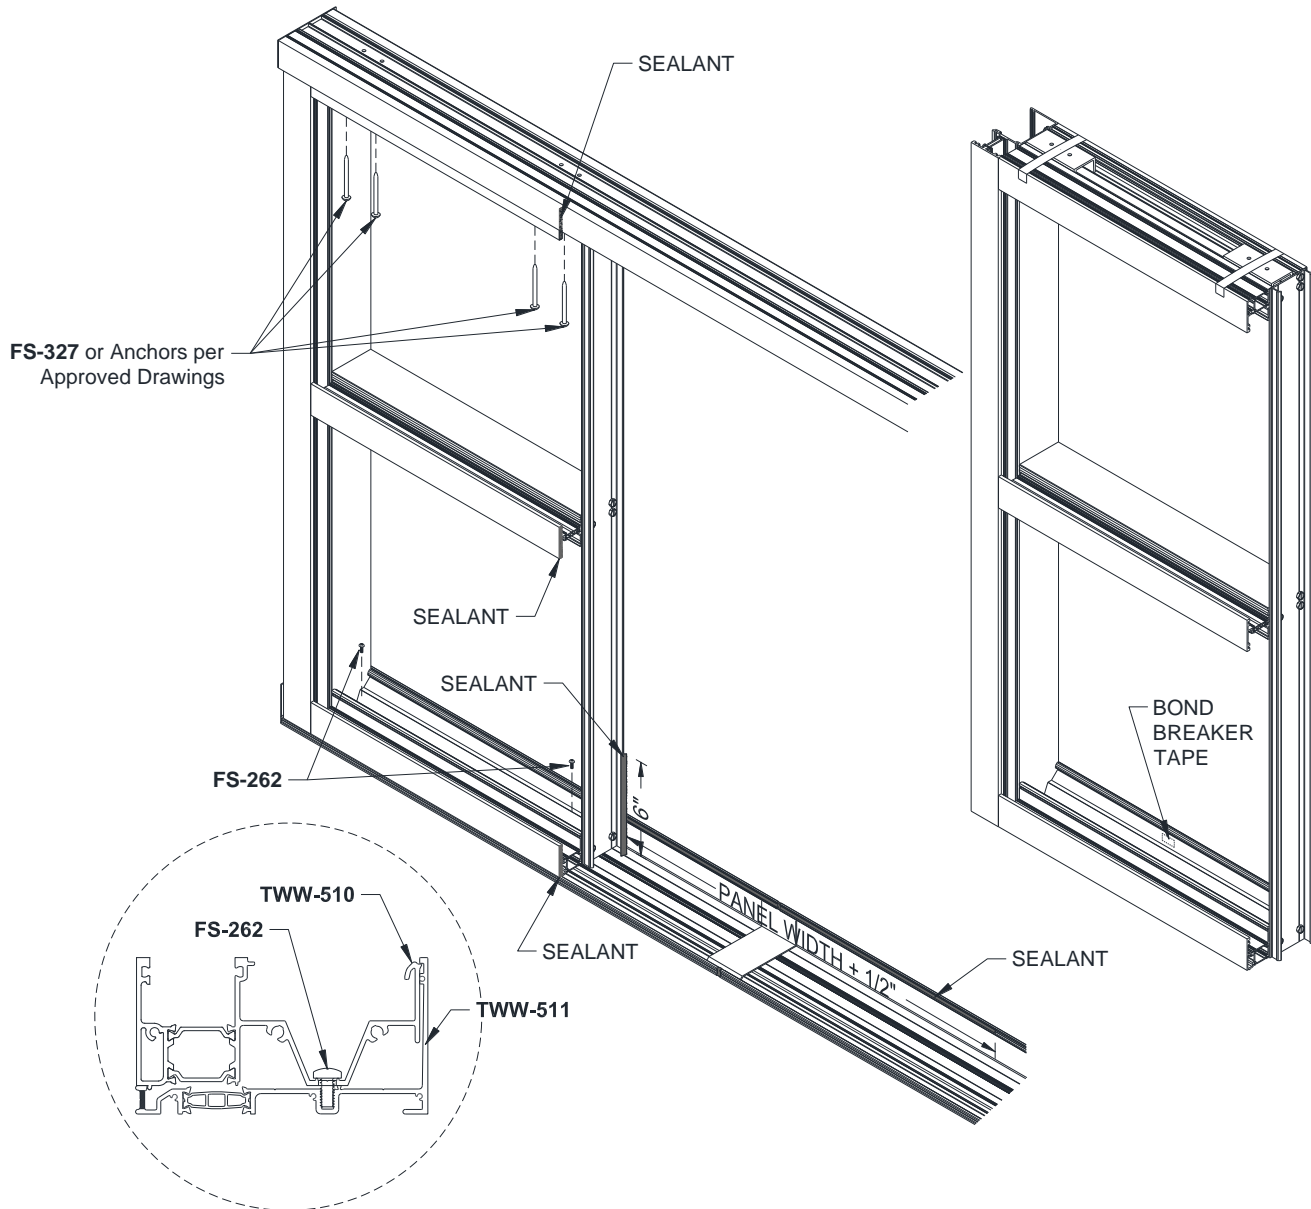

Figure 76: Panel Installation, Additional Panels
- 20.7 Remove any debris from the Sill and secure the panel to the Sill Receptor with **FS-262** fasteners, *Figure 76*. Do not cap seal fasteners.
- 20.8 Match drill holes at Head anchor points into Head Receptor and attach panel with **FS-327** fasteners or approved Anchors. It is not necessary to cap seal fasteners. Reference, *Figure 76*.
- 20.9.3 Reference *Figure 76* for all sealant locations.
- 20.9.5 Reference *Figure 76* for all sealant locations.
- 20.11 Just prior to placing the next panel, apply Sealant the full width of the panel bay plus 1/2" in the top of the Sill Receptor. Reference *Figure 76* for location.
- 20.15 Remove any debris from the Sill and secure the panel to the Sill Receptor with **FS-262** fasteners, *Figure 76*. Do not cap seal fasteners.
- 20.16 Match drill holes at Head anchor points into Head Receptor. It is not necessary to cap seal fasteners. Reference, *Figure 76*.